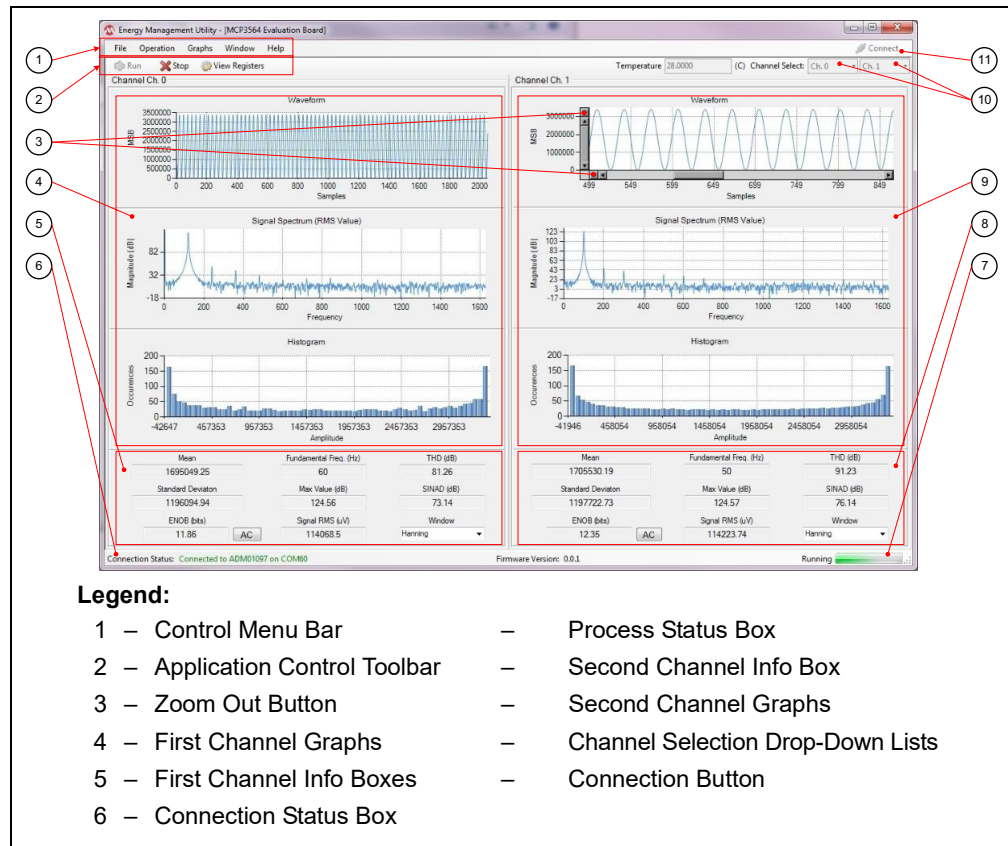

FIGURE 4-5: Main Window.
If the connection status is “Not Connected” (Figure 4-5, Number 6), repeat the hardware connection process, press the **Connect** button (Figure 4-5, number 11) and select the corresponding COM Port.
Once the hardware is properly connected, the default settings are uploaded into the ADC and the application is ready to be used. By pressing the **Run** button, the data acquisition starts and the status label (Figure 4-5, Number 7) changes from Idle to running.
- The control menu bar (Figure 4-5, Number 1) provides access to File, Operation, Graphs, Window and Help menus that are intuitive and easy to access, as well as the **Connect** button for reconnecting to the MCP3564 ADC Evaluation Board V2
For a better visualization, there is a zoom-in option available by clicking and dragging with the mouse on the desired graph. Zoom-out can be performed by using the **Zoom-Out** button on each graph's axis (Figure 4-5, Number 3). By default, the graphs are set to auto-scale, but that can be changed by selecting "Manual Scale" in the following menu: